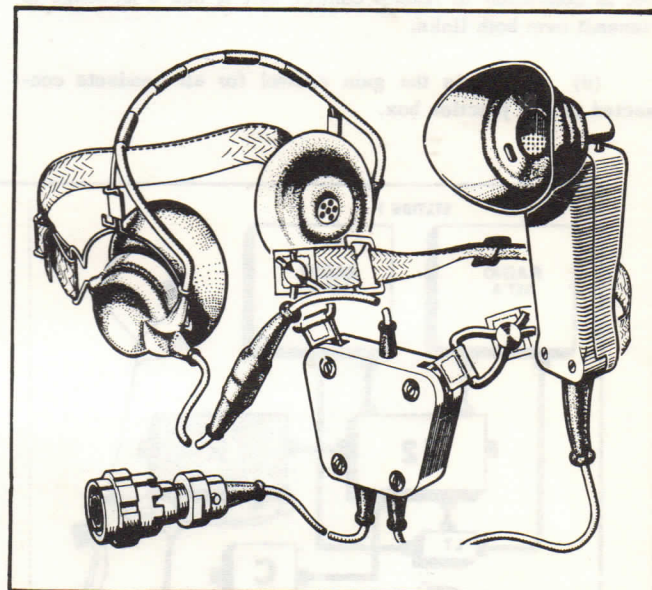

FIG 17 OPERATOR'S HEADSET
17. This is the microphone and receiver headgear assembly used by all personnel except the commander and remote operator. This is the same headset used in the A harness. It is illustrated in Fig 17. Separate connectors from the microphone and receivers are joined at a small junction box. The junction box is connected to a Mk 4 HEADSET socket by means of a 6 contact Mk 4 plug. A snatch plug connects the receiver on the headband to the junction box, which is attached to the webbing neckband harness by stud fasteners. The combination of the snatch plug and the stud fasteners permits the operator to disconnect quickly from the harness. A pressel switch on the microphone performs transmit-receive switching. A 30 foot extension lead is provided to give flexibility to the user.